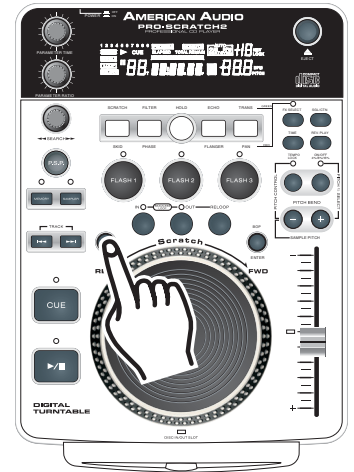

Figure 62
STEP TWO: Select the *FX MIX BUTTON (13)* to activate the FX Mix Mode as in figure 62.